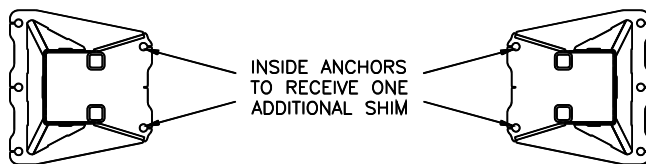

Fig 14 – Front Column Shimming
- 33) After properly shimming column plumb, loosen anchors and add one shim to both of the two inside anchors to lean the column outward slightly. Make sure lower Slide Blocks are in contact with column and torque all anchor bolts to 150 foot-pounds, Fig 14.